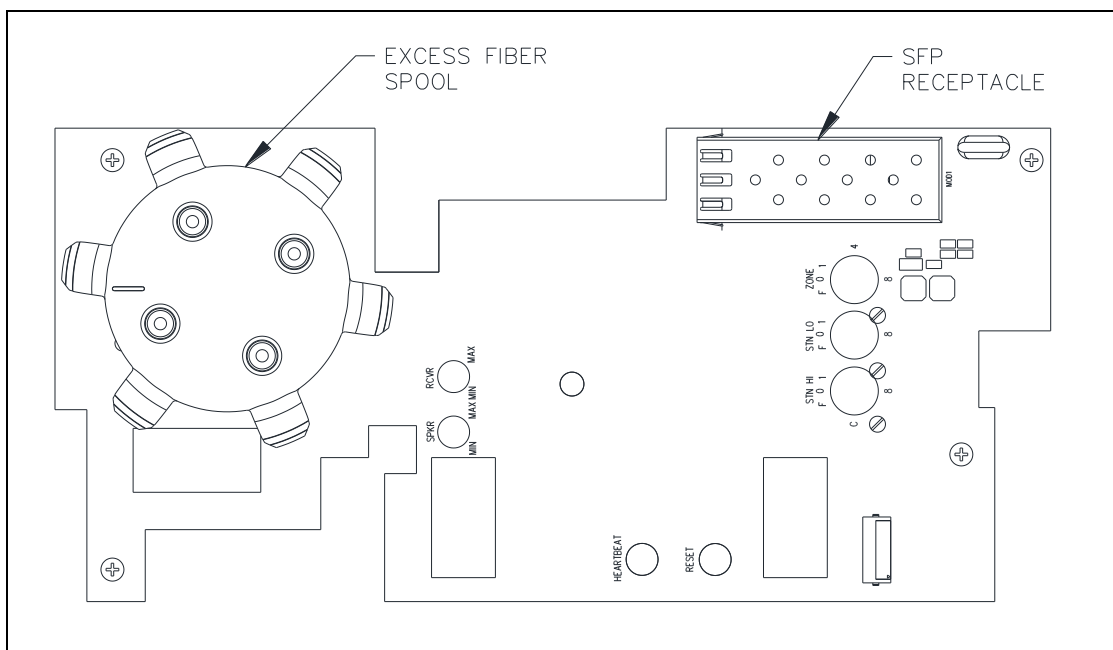
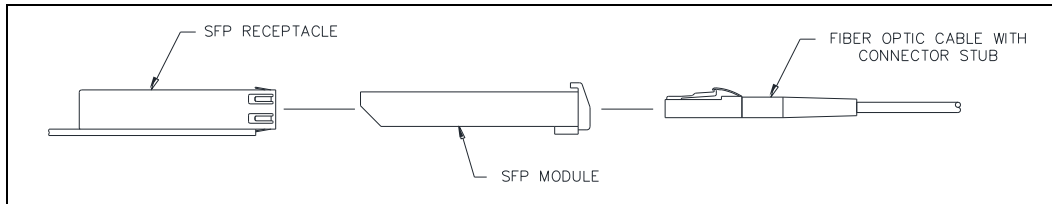

Figure 10. Fiber Termination PCBA
Figure 11. SFP Transceiver Insertion and Fiber Plug-in
The fiber termination board (see Figure 10), mounted on top of the main PCBA, permits termination of customer supplied fiber optic cable and SFP (Small Form-factor Pluggable) transceiver. Exact fiber termination is installation dependent because the fiber optic cable and SFP transceivers used in SP2 system installations are customer supplied.
1. Insert the SFP transceiver into the SFP receptacle (see Figure 10 and Figure 11).
4. Plug the fiber connector into the SFP (see Figure 11).